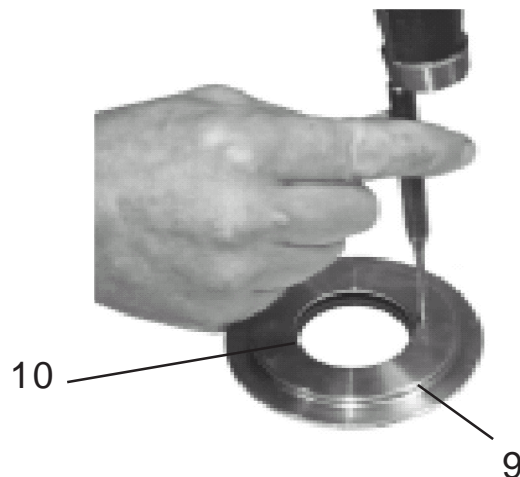
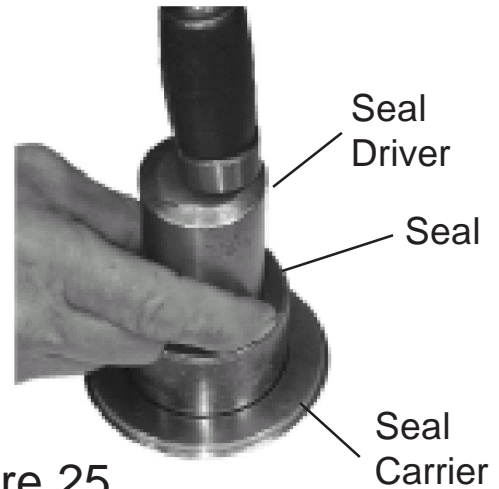

Figure 24
Figure 25
8. Install Seal into Seal Carrier. Drive the old Seal out of Seal Carrier (See Figure 24) Install new seal (item 10) using a seal driver. Coat the ID of seal with a light coat of oil. (See Figure 25)
20 If only replacing Seal as a repair See Figure 8 & 9 in disassembly section and Figures 24, 25, 26 & 27 in the assembly section.